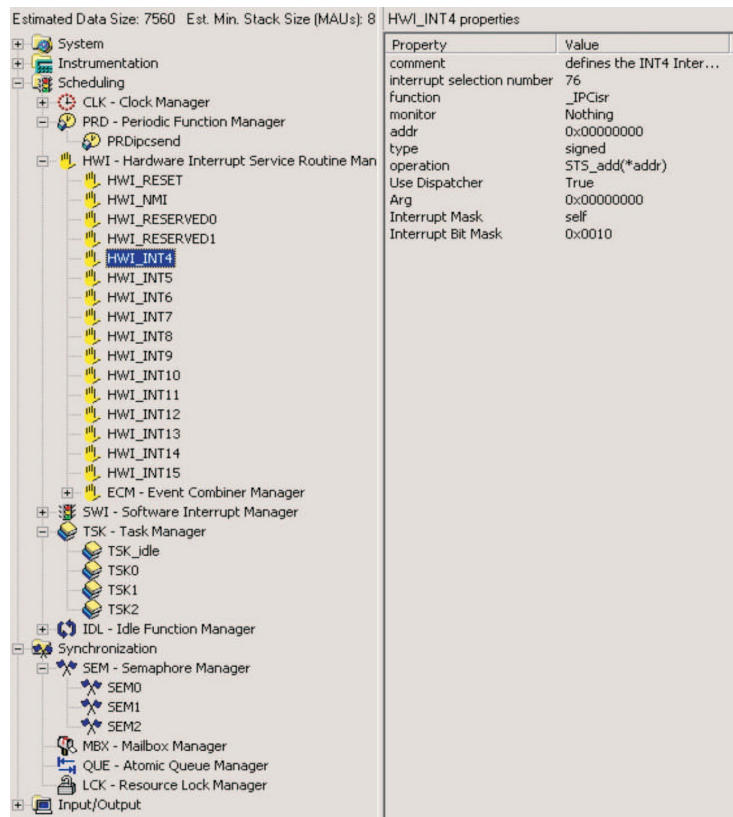

Figure 2. BIOS Configuration File for the IPC Project
1. Configure Code Composer Studio setup for the C6474 operation. It should look like Figure 2.